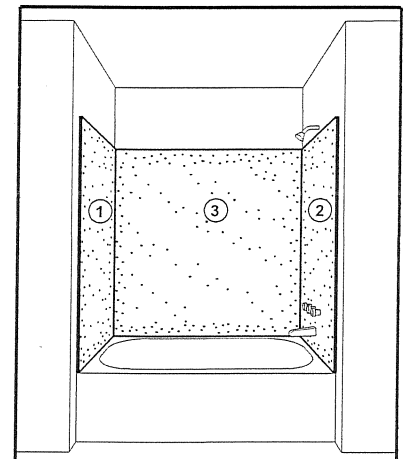

Fig. 7
Step 7. Place side panel (2) in position. The panel should fit within 1/8". If not scribe and sand an unexposed edge to fit. If this panel is to be cut out for plumbing fixtures apply masking tape on the finished side at the approximate locations. Mark the centerlines and scribe a circle of the diameter required. Drill a pilot hole within the circle and use a saber saw to cutout the circle. Install the panel as described in step 6. Repeat with other side panel (1).(see fig. 7)